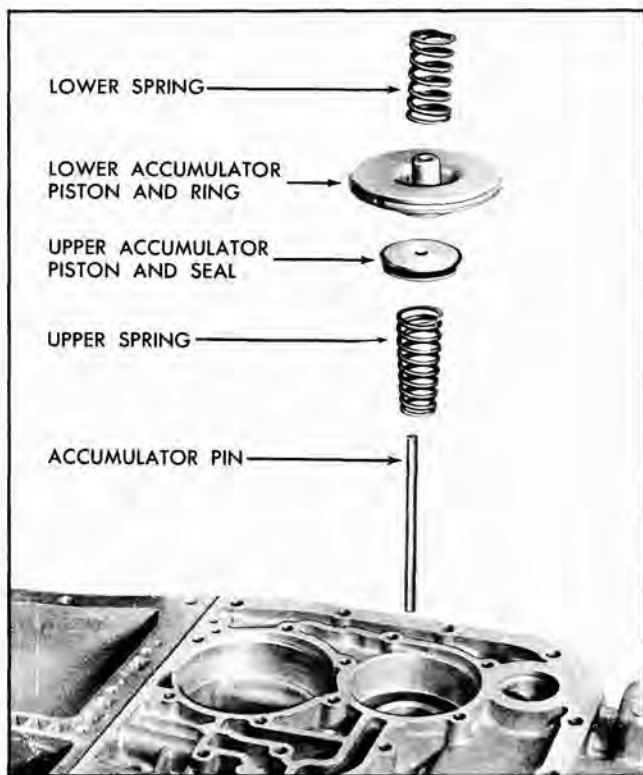

Fig. 134 Accumulator Assembly—Exploded
2. Install upper accumulator spring, small end first (Fig. 134).